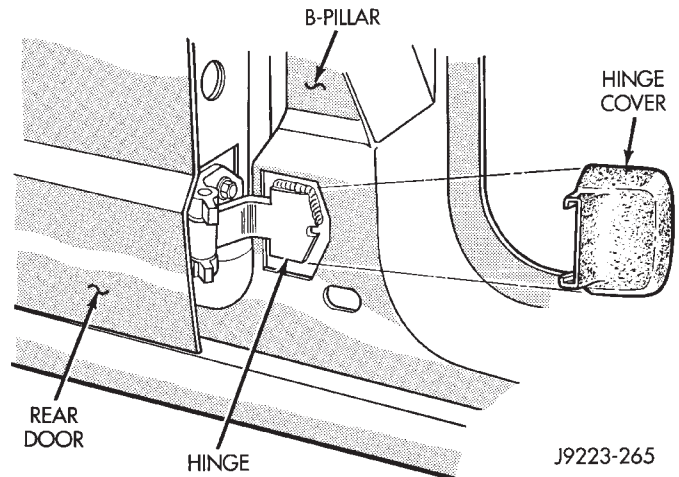

Fig. 87 Rear Door Hinge
- (3) Rear door: with the door closed, remove the door hinge pin and bushing with a punch (Fig. 87).